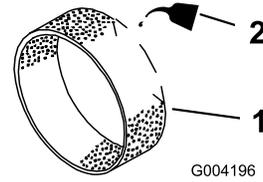

Figure 27
3. Put one or two ounces of oil on the pre-filter (Figure 27).